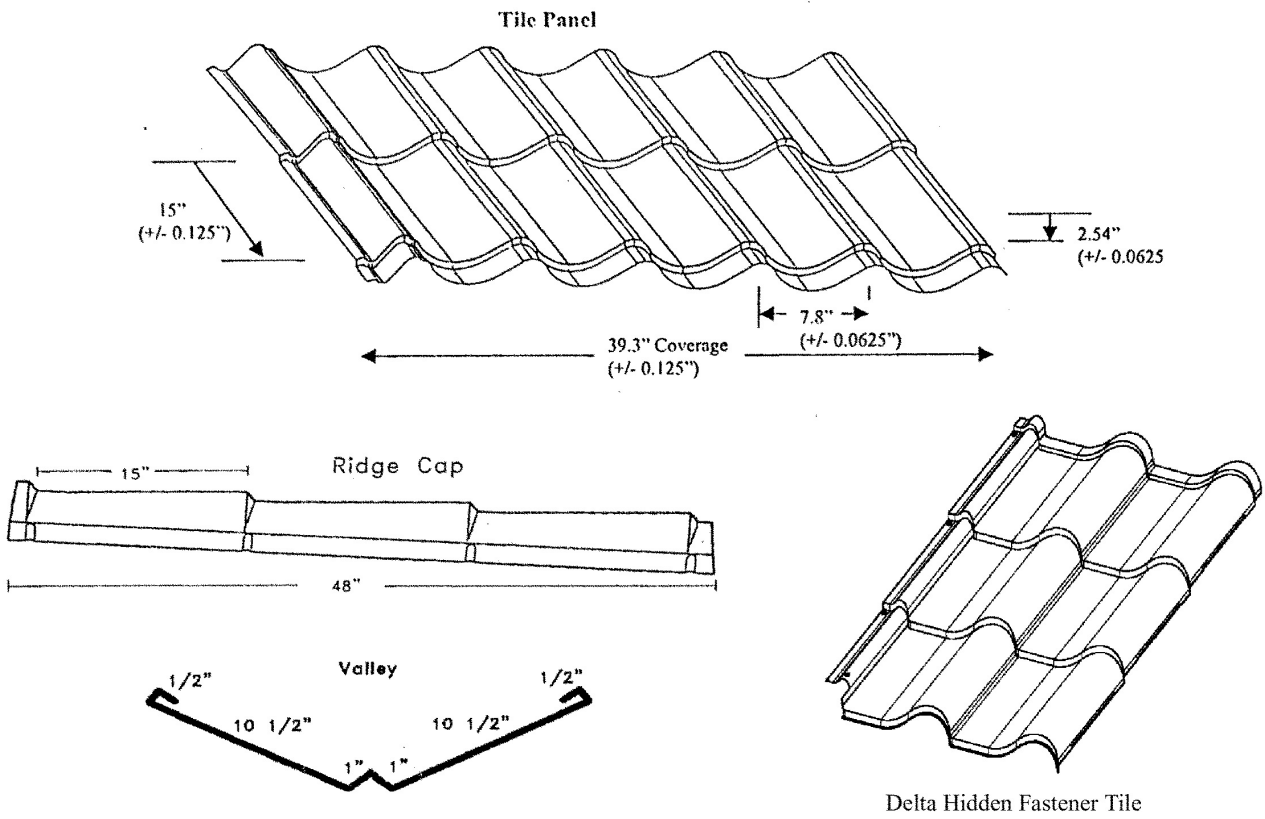

FIGURE 1—TILE AND ACCESSORY PROFILES
2.1.1 Delta Tile Panels: The Delta Tile panels are pressure-formed from corrosion-resistant, structural-quality steel sheet and from aluminum sheet, and have an overall width of 43.5 inches (1105 mm), with an installed horizontal exposure of 39.3 inches (998 mm). The panels consist of six modules, each 7.8 inches (198 mm) wide and 15 inches (381 mm) long, with panel lengths of up to 30 feet (9144 mm). The panels overlap on the side and ends and are fastened with screws supplied by Delta Building Products. Accessory gable, ridge, hip and other trim components are produced in a similar manner. See Figure 1 for panel and trim component profiles.
2.1.2 Delta Hidden Fastener Tile Panels: The Delta Hidden Fastener Tile panels are pressure-formed from corrosion-resistant, structural-quality steel sheet and from aluminum sheet and have an overall width of 21.5 inches (546 mm), with an installed exposure of 18 inches (457 mm). The panels consist of two modules, each 9 inches (229 mm) wide and 15 inches (381 mm) long, with panel lengths from 16.25 inches to 15 feet (413 mm to 4572 mm). The panels are fastened on the overlapping left edge with screws supplied by Delta Building Products Ltd., and interlock with adjacent panels from right to left and overlap on the top and bottom. Accessory gable, ridge, hip and other trim components are produced in a similar manner. See Figure 1 for panel and trim component profiles and Figures 2 and 4 for attachment.
Valleys are formed using valley trim, illustrated in Figure 1, supplied by Delta Building Products. The valley trim is attached to the deck using screw clips, installed four per side every 10 feet (3048 mm). Valley flashing end laps must be a minimum of 4 inches (102 mm). The valley flashing must have one layer of Type 15 felt underlayment, 36 inches (914 mm) wide, directly under the full flashing length. See Figure 3 for typical installation details.
2.4.2 Class A Roofing Assembly: Ridge and hip caps must be removed and the existing wood shake, wood shingle or asphalt shingle roof covering cut back flush with the fascia or barge cover. A barrier material of either one layer of minimum $\frac{1}{4}$ -inch-thick (6.4 mm) Dens-Deck Roof Board or two layers of Atlas Roofing Corporation FR-50 cap sheet are attached to the deck. An underlayment described in Section 2.2.5 must be installed over the barrier materials. If the existing roof covering is installed over solid sheathing, the panels are installed over the existing roof covering without battens. If solid sheathing is not present, 1-by-4 wood battens are installed at 15 inches (381 mm) on center and attached over the barrier material to framing members spaced a maximum of 24 inches (610 mm) on center with 8d, corrosion-resistant box or common nails penetrating at least 1 inch (25.4 mm) into the roof framing member. Application of underlayment, barrier material and roof panel is as described in Section 2.3.4 of this report. Fasteners attaching the panel must be of sufficient length to penetrate through solid sheathing or penetrate $\frac{3}{4}$ inch (19.1 mm) into battens. When installation is over existing wood shake or wood shingle roofs, Section 1516.3 of Appendix Chapter 15 of the UBC, and Footnote 2 to Table A-15-A of the UBC, must be addressed. New flashing must be installed over and around all existing flashing, vents and chimneys in accordance with this report and the UBC. The valley used in reroofing must be as shown in Figures 1 and 3.